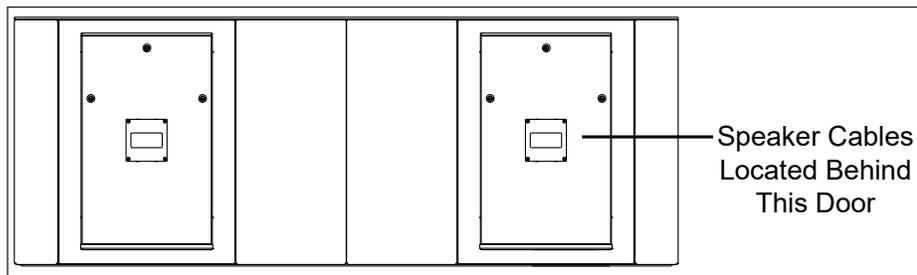

Figure 13: Sound Cabinet Access Doors, Rear View
1. Open the far right rear access door of the sound cabinet. Refer to **Figure 13**. Turn all latches a 1/4 turn using a flathead screwdriver. Tilt the top of the door away from the cabinet. With the door tilted, use the handle to lift it up and out of the door frame.